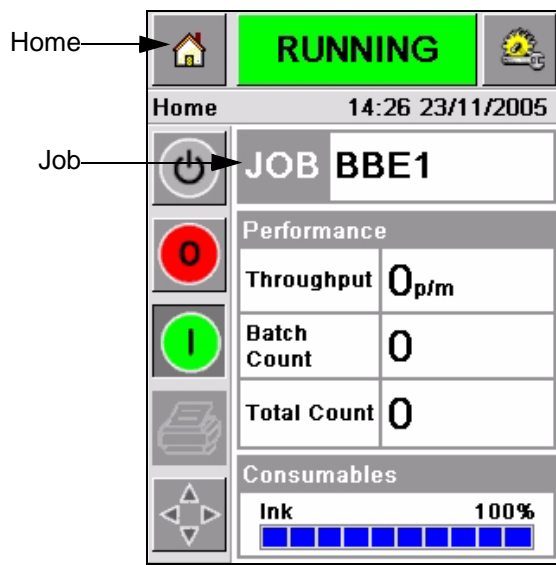

Figure 5-1: Job Icon
- 1 Touch the *Job* icon (Figure 5-1 on page 5-2).